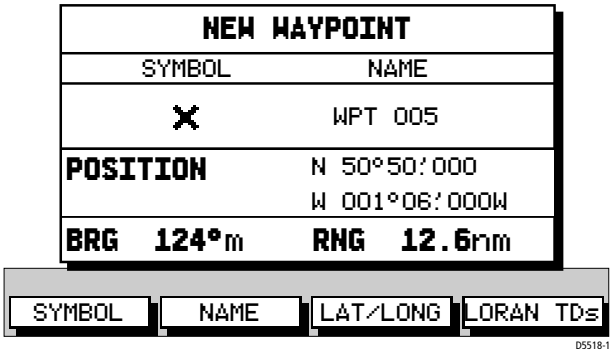

Figure 3-23: New Waypoint Screen
2. Press the **MAKE NEW WAYPOINT** soft key; the New Waypoint screen is displayed, together with its associated soft keys, see *Figure 3-23*.